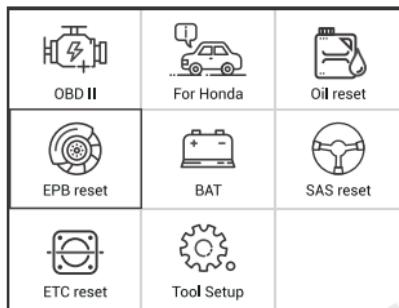

Figure 1
- (1) Select the [Brake Pad Replacement] shortcut menu directly from the nine-square grid. (Figure 1)